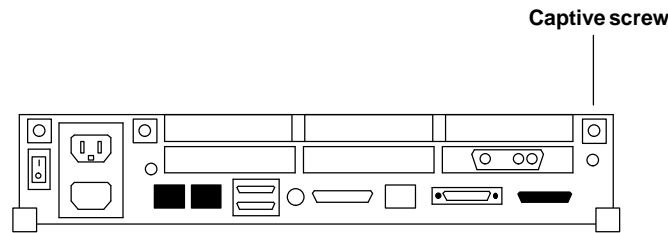

Figure 3-15. Location of Captive Screw on the Rear Panel
4. Tighten the captive screw on the rear panel. Refer to Figure 3-15.